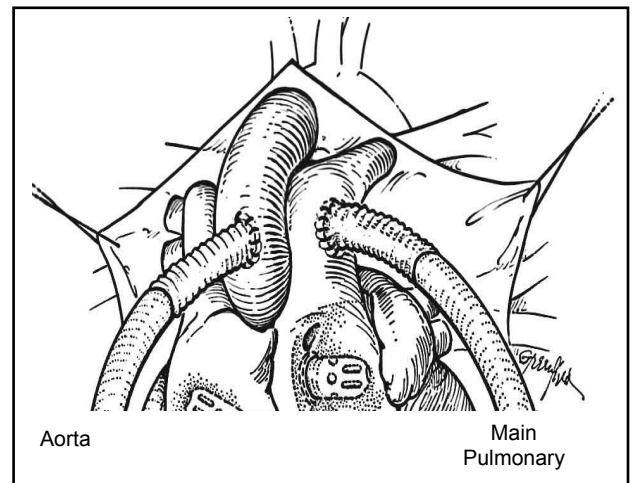

Figure 6
2. Perform end-to-side anastomosis using a running suture (3-0 or 4-0 polypropylene). **(Fig.6)**